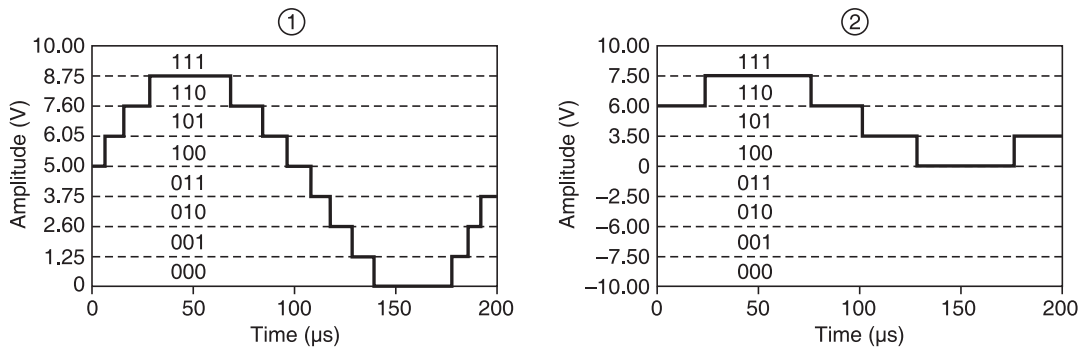

Figure 11.20 Range example.
*Range* refers to the minimum and maximum analog signal levels that the ADC can digitize. Many DAQ devices feature selectable ranges (typically 0 to 10 V or -10 to 10 V), so you can match the ADC range to that of the signal to take best advantage of the available resolution to accurately measure the signal. For example, in Figure 11.20, the 3-bit ADC in chart 1 has eight digital divisions